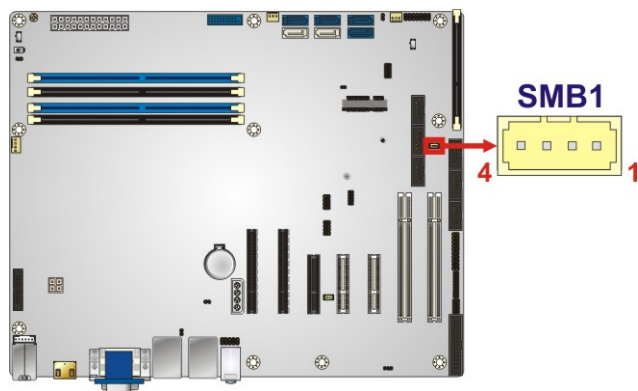

Figure 3-28: SMBus Connector Location
- CN Location: See Figure 3-28